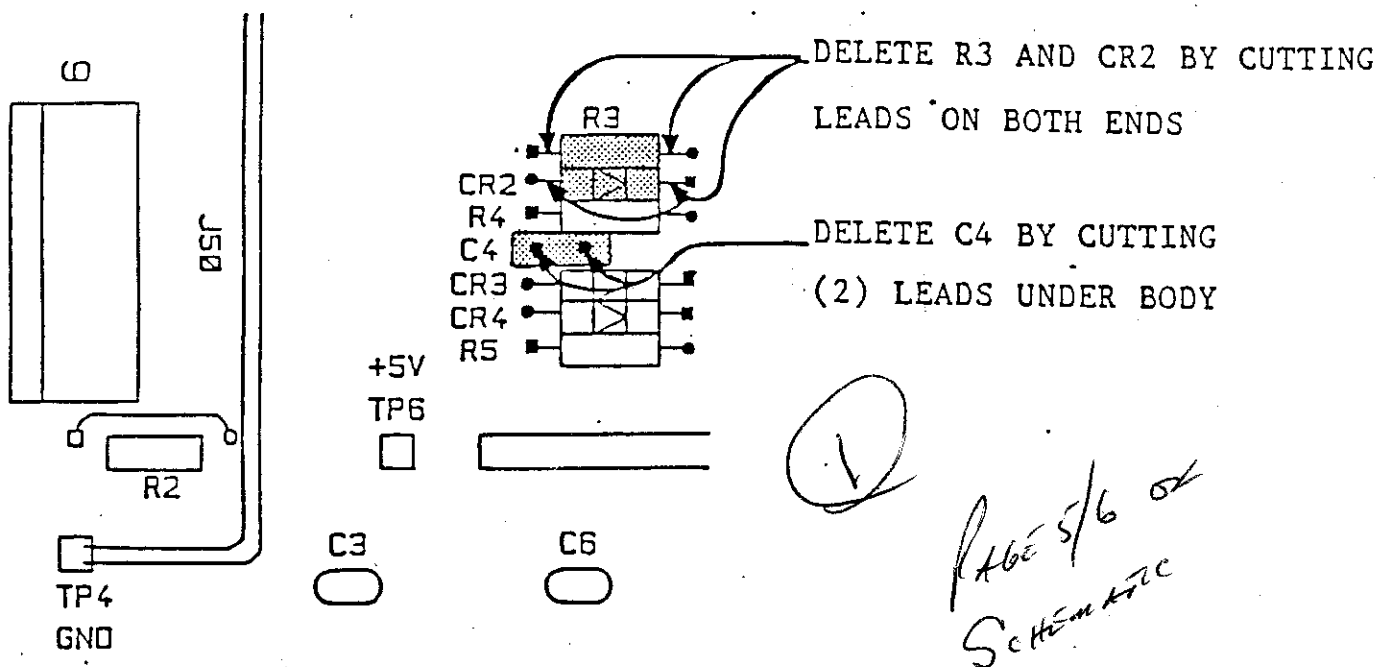

FIG. 7
1. Delete (Remove from circuit) the following components by cutting out of circuit board with fine tipped wire cutters (Fig 7). Cut components at base of wire connections to board.